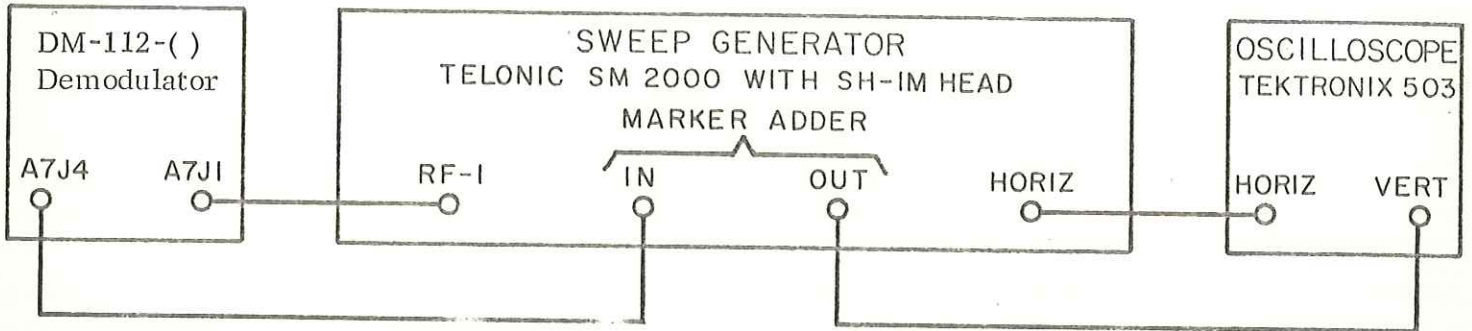

Figure 4-8. Test Setup, 160 MHz Limiter/
- (6) Adjust A7C8 and A7C12 for a maximum amplitude response while maintaining symmetry of the signal. If the signal begins to clip or limit it may be necessary to reduce the output level of the signal generator.
- (7) Reconnect equipment as shown in Figure 4-8.